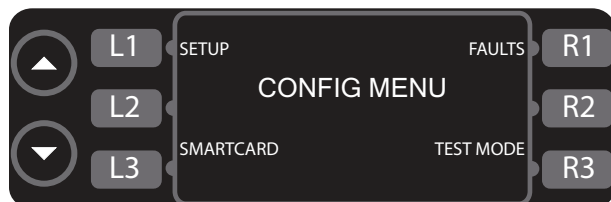
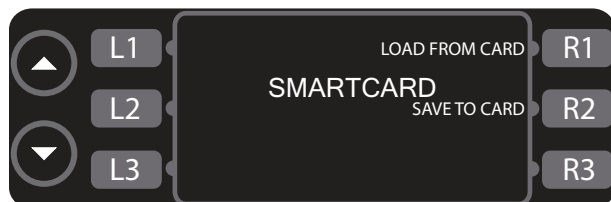

Figure 9: Config Mode
Figure 10: Smart Card Screen
The CONFIG MODE (Figure 9) serves four main purposes:
1. Press L3 (Figure 9) to access the smart card screen (Figure 10).
- Press R1 to load a menu from the smart card to the oven (Figure 10).
- Press R2 to save a menu from the oven to the smart card (Figure 10).
From the CONFIG MODE (Figure 9, page 15), press R1 to access the fault count screen (Figure 13). The oven will display the number of faults that have occurred since the oven fault counts were last cleared (page 20), the oven’s software was last updated (page 15), or the oven was last returned to the manufacturer’s default settings (page 20).
From the CONFIG MODE (Figure 9, page 15), press L1 to access the SETUP MODE. The SETUP MODE allows the user to customize several oven settings - see below for more details.
From the CONFIG MODE (Figure 9, page 15), press R3 to access the TEST MODE. The TEST MODE gives the service agent the ability to diagnose oven problems and perform other service related tasks. See page 17 for more information on the TEST MODE.